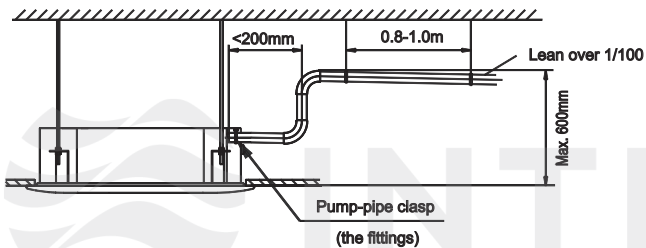

Fig.6-2
- In case the drainpipe outlet is higher than pumping connective pipe of the main body, the drainpipe must be arranged upwards vertically by using connective assembly of the water outlet for vertical bending, and the height of the drainpipe shall set to the defrosting pan surface no more than 1000mm (four-way cassette) or 600mm (slim four-way cassette), otherwise, too much backflow while shutdown would leads to overflow (Refer to Fig.6-2).